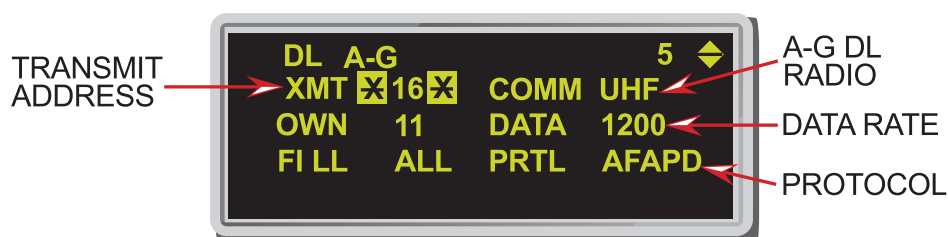

Figure 4-26 SEAD Message Transmission
- 1) Enter the transmit address (XMT) on the A-G DL initialization page for the intended receiver (Figure 4-26).